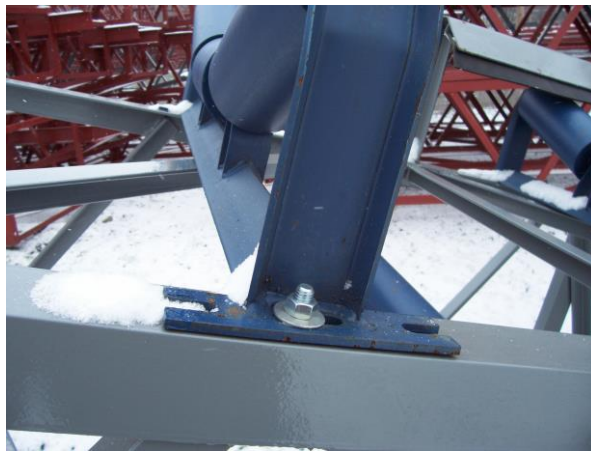

Figure 3
Install idlers using the 1 ½ x ½ bolts, nuts and flat washers provided. **Rollers should be mounted "square" to the conveyor frame and parallel to the Head and Tail Rollers.** Connections should be made with one washer and nut on top. Typical idlers supplied include Five (5) at 20 degree and the balance at 35 degree. Four 20 degree idlers are installed at the tail immediately after the tail pulley and one installed at the head before the head pulley. (See Figure 3) CEMA B Idler shown. **NOTE: See Appendix C for Grain Stacker 20 Degree Idler Spacing Photos**